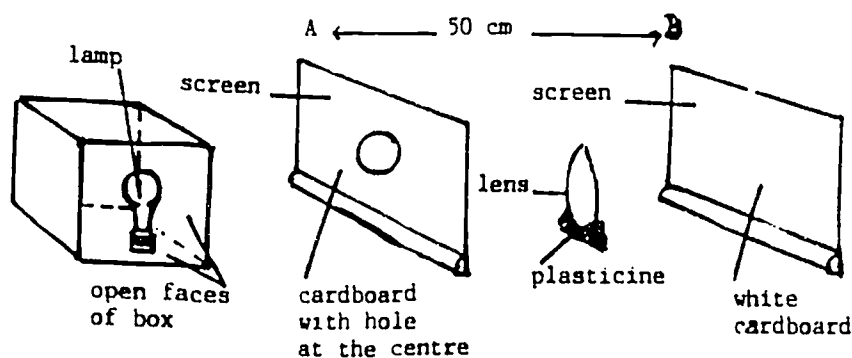

Fig. 19
3. Arrange the apparatus as shown in fig. 19.